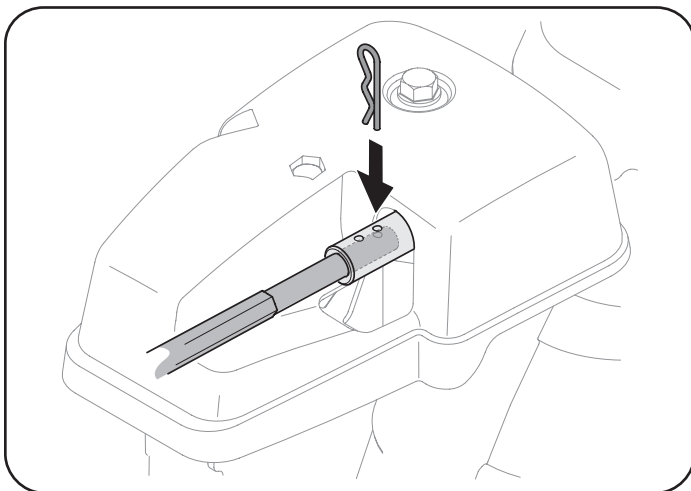

Figure 25
7. Push chute control rod toward control panel until hole in rod lines up with hole in chute control input closest to chute control head and insert hairpin clip (a) removed in Step 1. See Figure 25.